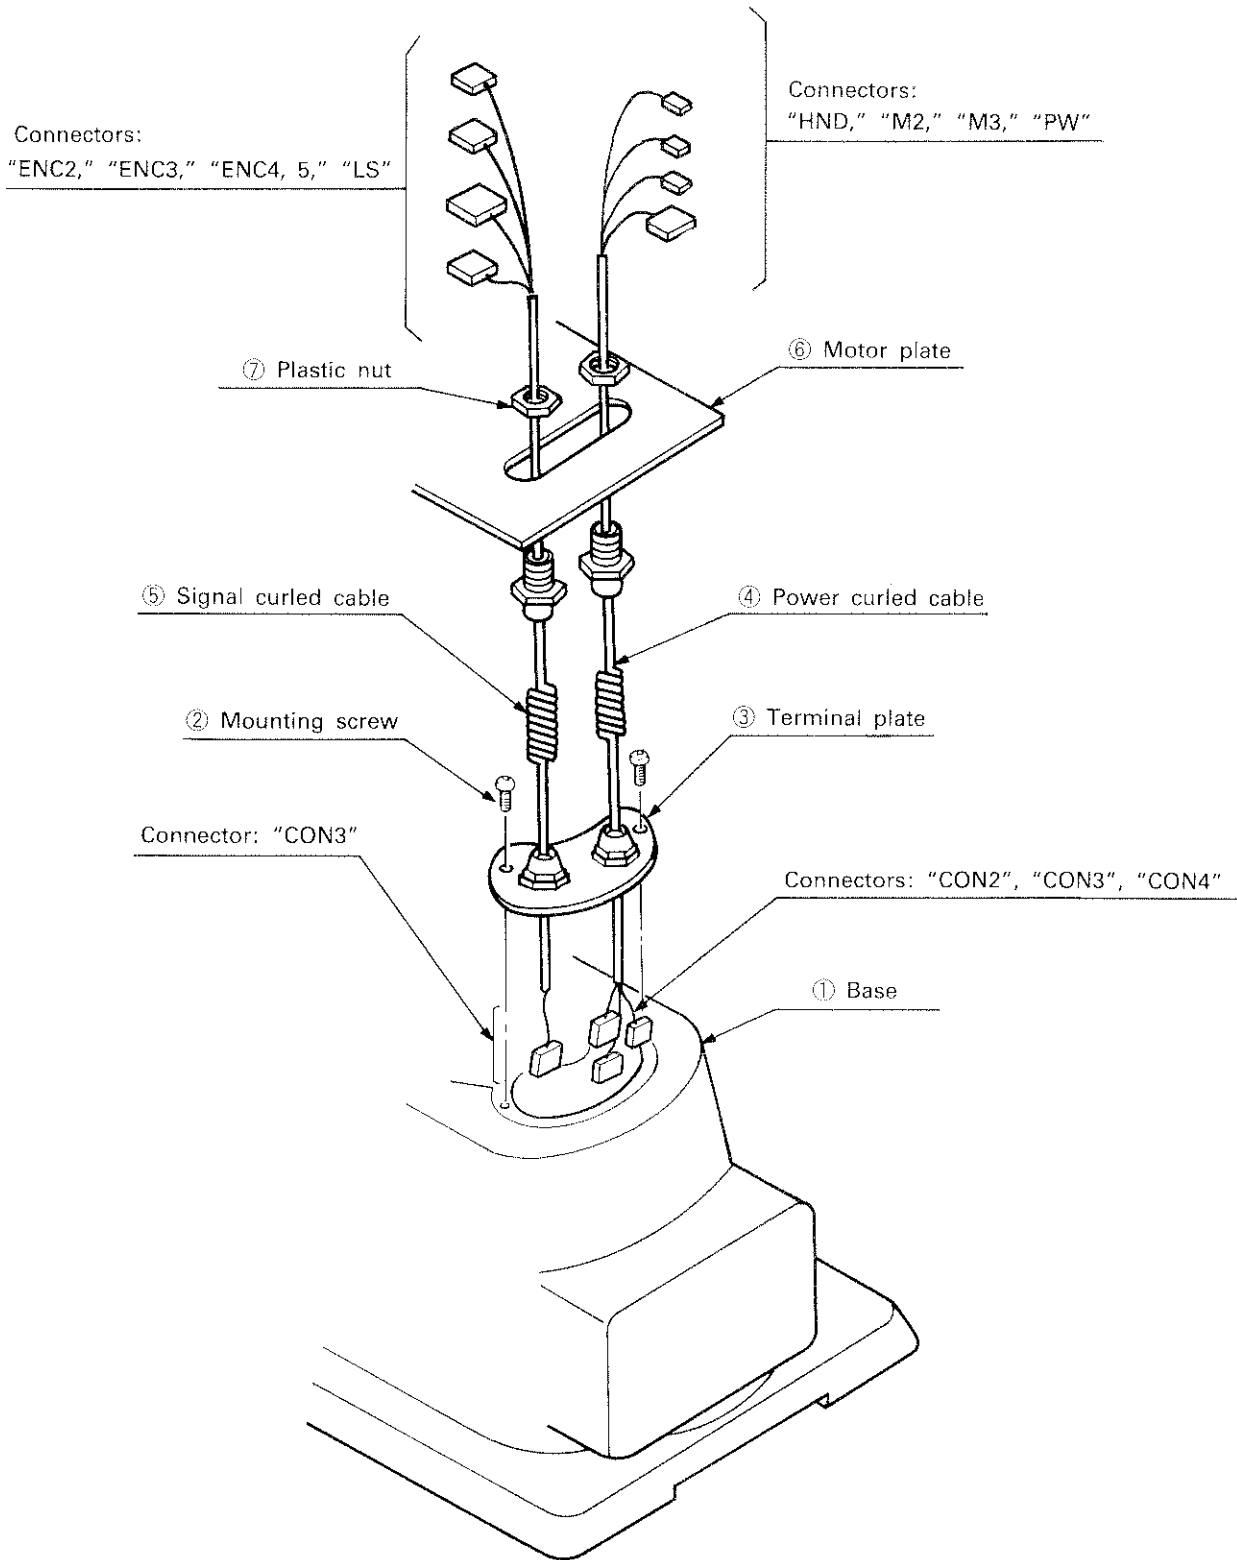

Fig. 4.3.14 Replacing the Curled Cables
- (1) Fig. 4.3.14 outlines the replacement procedure of the two curled cables.
- (2) Make sure that the power switch on the drive unit rear panel is in the OFF position.
- (3) Remove the base side covers and upper and lower shoulder covers by referring to 3.2 Removal of the Covers.
- (4) Unplug the four connectors (connector names: "CON2", "CON3", "CON4" and "CON3") which are plugged into position inside the base ①.
- (5) Unplug the eight connectors (connector names: "PW," "HND," "M2," "M3," "ENC2," "ENC3," "ENC4, 5," and "LS") which are plugged into position inside the shoulder covers.
- (6) Each connector is identified by the connector name printed on the marking seal.
- (7) Remove the two mounting screws ② and pull off the terminal plate ③ together with the power curled cable ④ and signal curled cable ⑤ from the base ①.
- (8) Remove the plastic nuts ⑦, each of which secures the power curled cable ④ and signal curled cable ⑤, respectively, to the motor plate ⑥.
- (9) Pull off the two cables ④ and ⑤ from the motor plate ⑥.
- (10) To install new cables, reverse the order of removal.